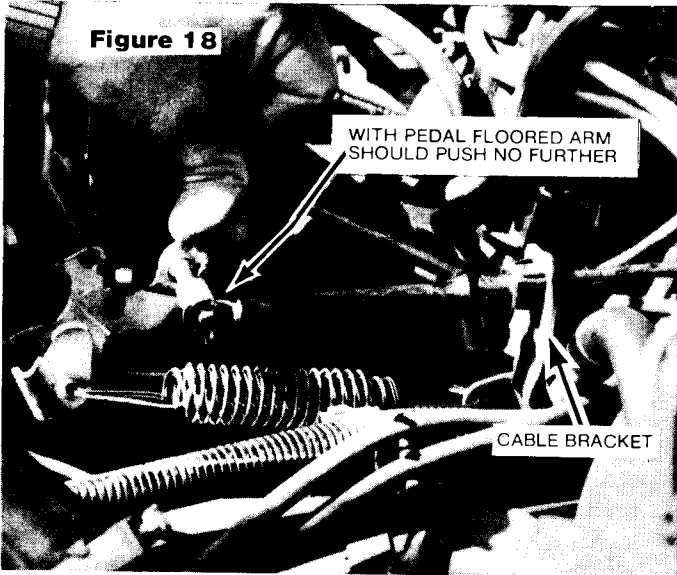

Figure 18
1. Have someone floor the gas while you check for W.O.T. as shown in Figure 18.